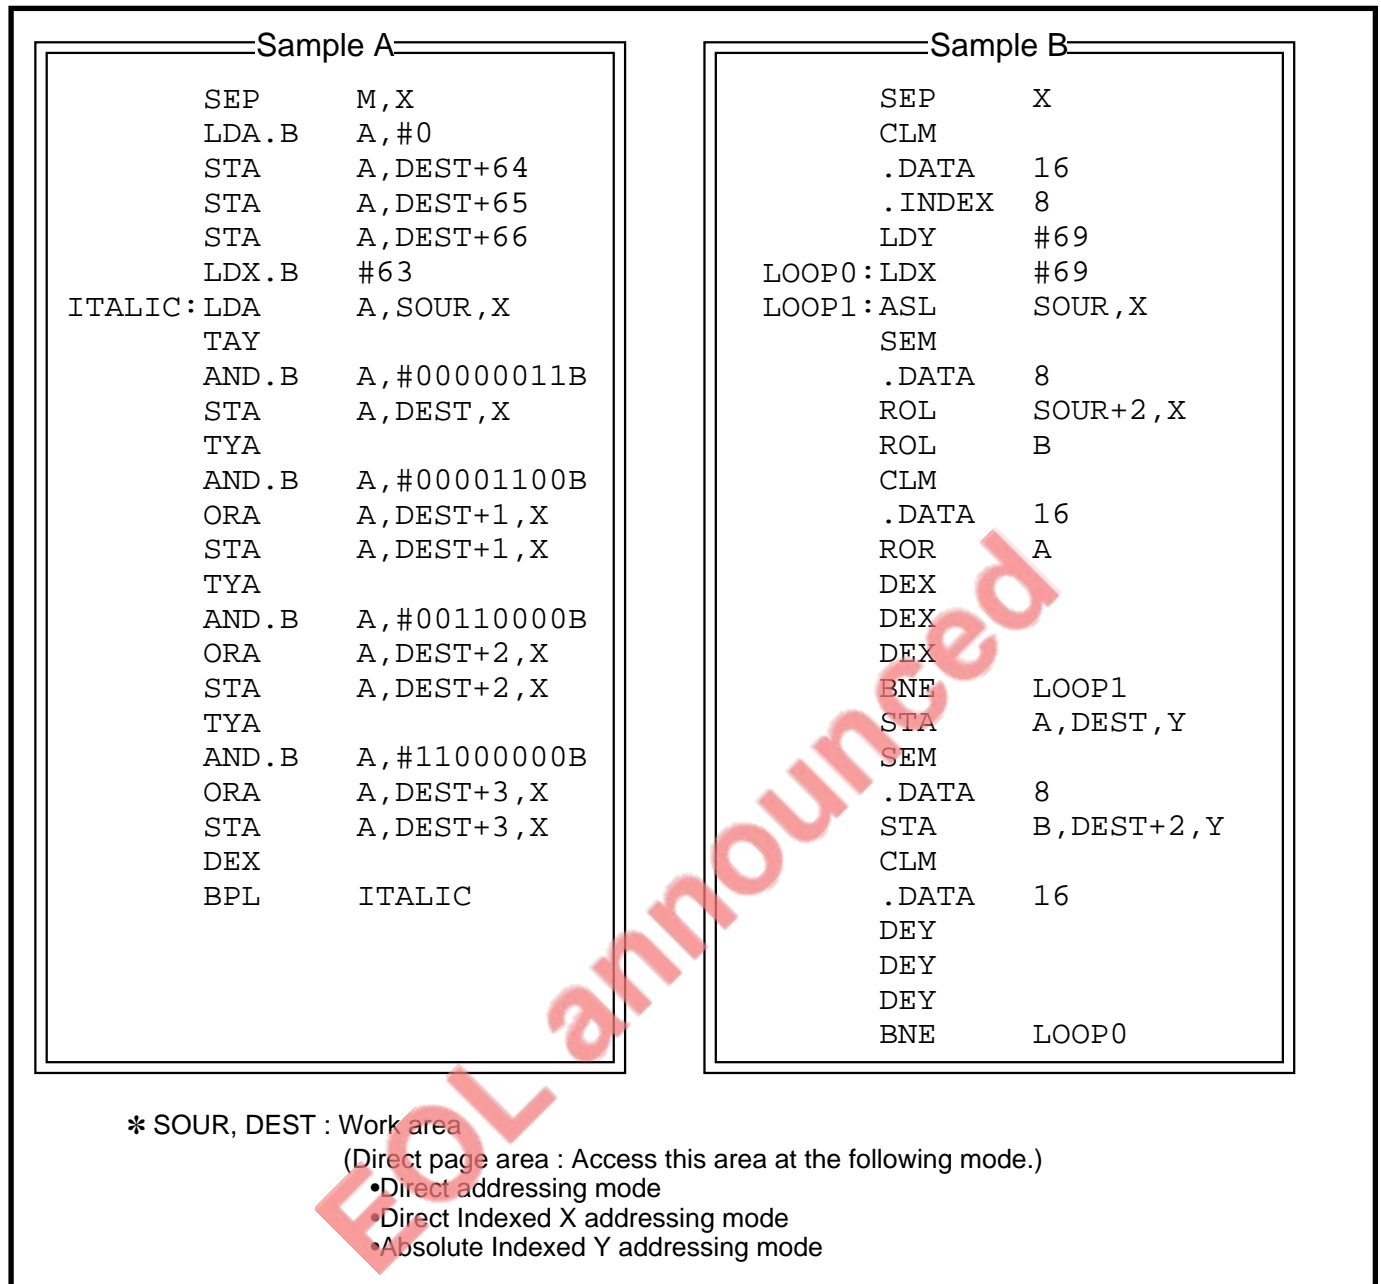

Fig. 17.2.1 Sample program list
Internal areas are always accessed at 16-bit data bus width and without software Wait. In the external areas, the external data bus width and software Wait are selectable. Table 17.2.1 lists the sample program (refer to Figure 17.2.1) execution time ratio depending on these selection and used memory areas.
The following conditions ① and ② are compared. Refer to Figure 17.2.1 about executed sample program. The execution time ratio depends on the program or the usage conditions.